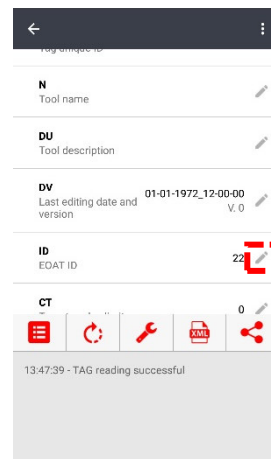
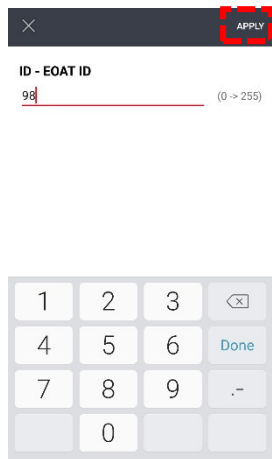

Figure 8
Figure 9
- Once the expert mode has been enabled, all the parameters can be overwritten by clicking on the pen icon (example: the EOAT ID number is editable), as shown in (Figure 8). To confirm the change and to write the new parameters into the tag, the 'APPLY' button must be pressed, in the upper right part of the screen (Figure 9), holding the TAG in the position of reading action. When the update is completed, the application returns to the main screen. To be sure that the operation was performed successfully, please read again the same RBQC to check the new values of the parameters.